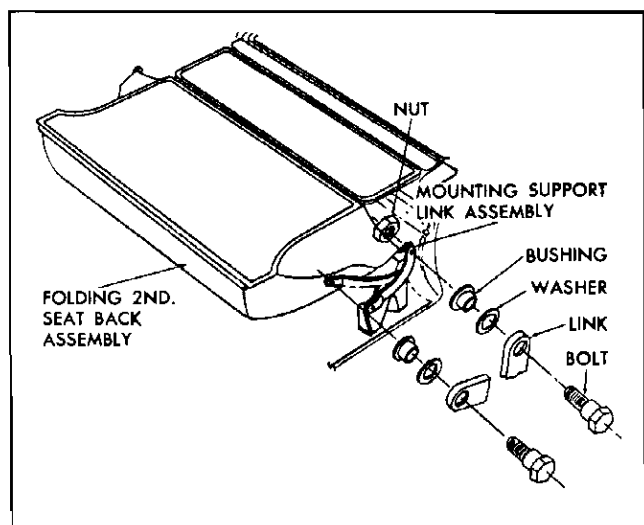

Fig. 5-15 Second Seat Mounting Support Link Assembly
4. Remove bolts securing right and left mounting support link assemblies to seat back assembly (Fig. 5-15), and remove folding 2nd seat back assembly with attached filler panel from body.
2nd seat back assembly and remove support link from body (Fig. 5-15).